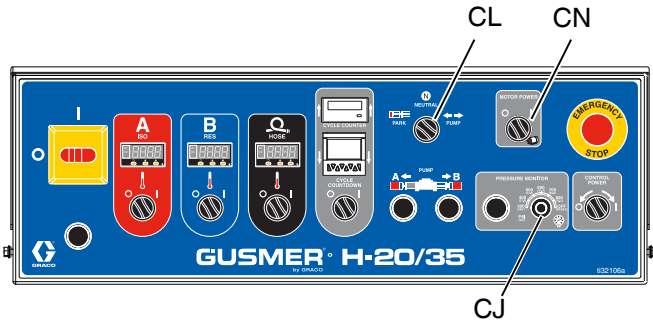

FIG. 39
9. Turn pressure monitor knob (CJ) to **OFF**. See Fig. 39.
- Start hydraulic motor by turning on motor power switch (CN). Then turn pump control switch (CL) to PUMP.